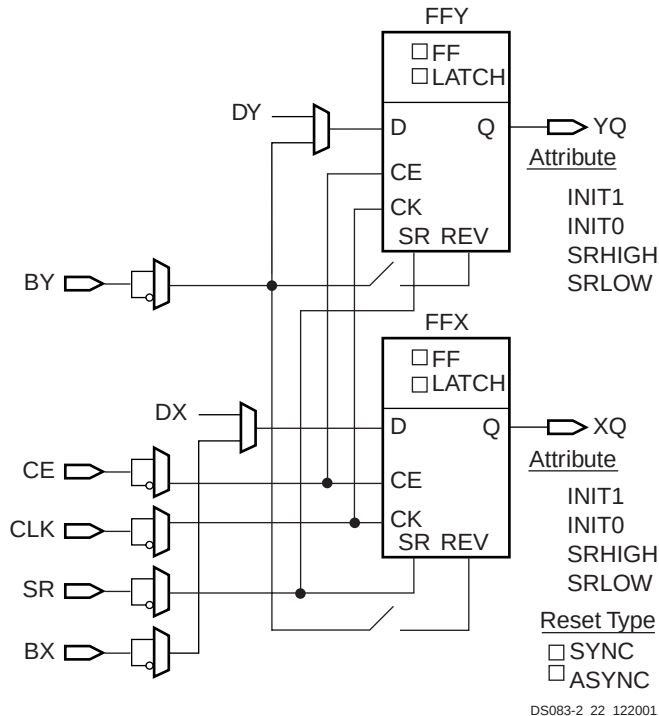

Figure 37: Register / Latch Configuration in a Slice
In addition to clock (CK) and clock enable (CE) signals, each slice has set and reset signals (SR and BY slice inputs). SR forces the storage element into the state specified by the attribute SRHIGH or SRLOW. SRHIGH forces a logic 1 when SR is asserted. SRLOW forces a logic 0. When SR is used, an optional second input (BY) forces the storage element into the opposite state via the REV pin. The reset condition is predominant over the set condition. (See Figure 37.)